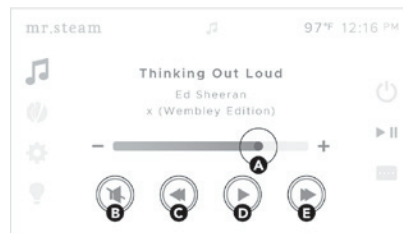

Figure 18
6. To control an auxiliary-connected or Bluetooth-connected device (**Figure 18**):